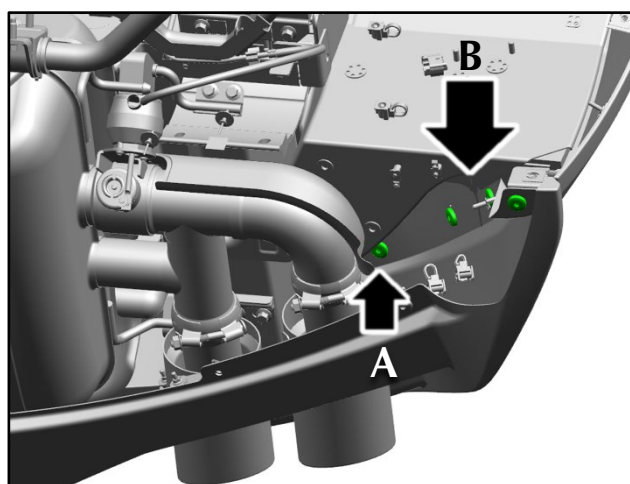

Figure 12
20. Loosen the bolt marked A (refer to Figure 12) on the two sides of the vehicle. This bolt will hold the diffuser when the others are removed.
21. Remove the three bolts marked B (refer to Figure 12) on the two sides of the vehicle.